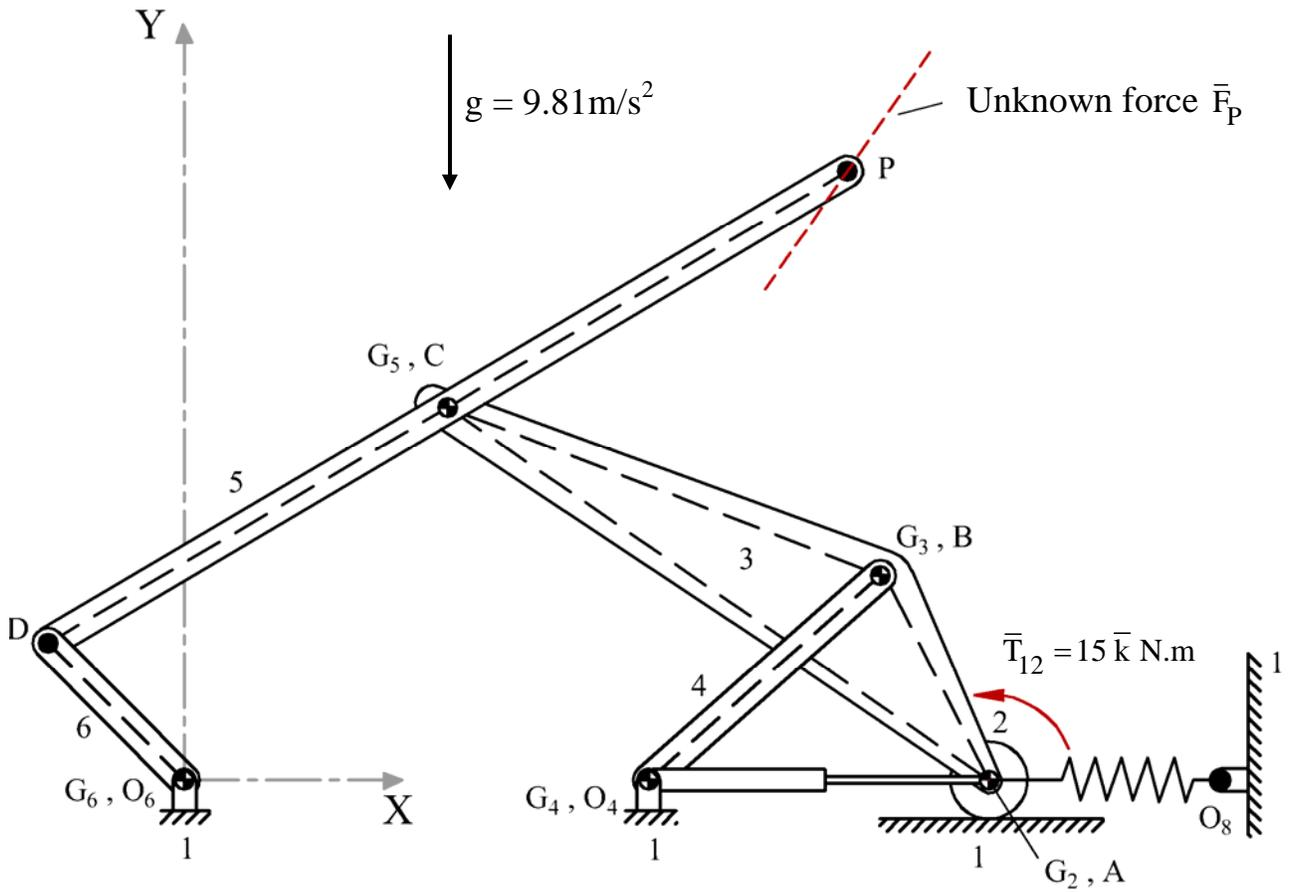
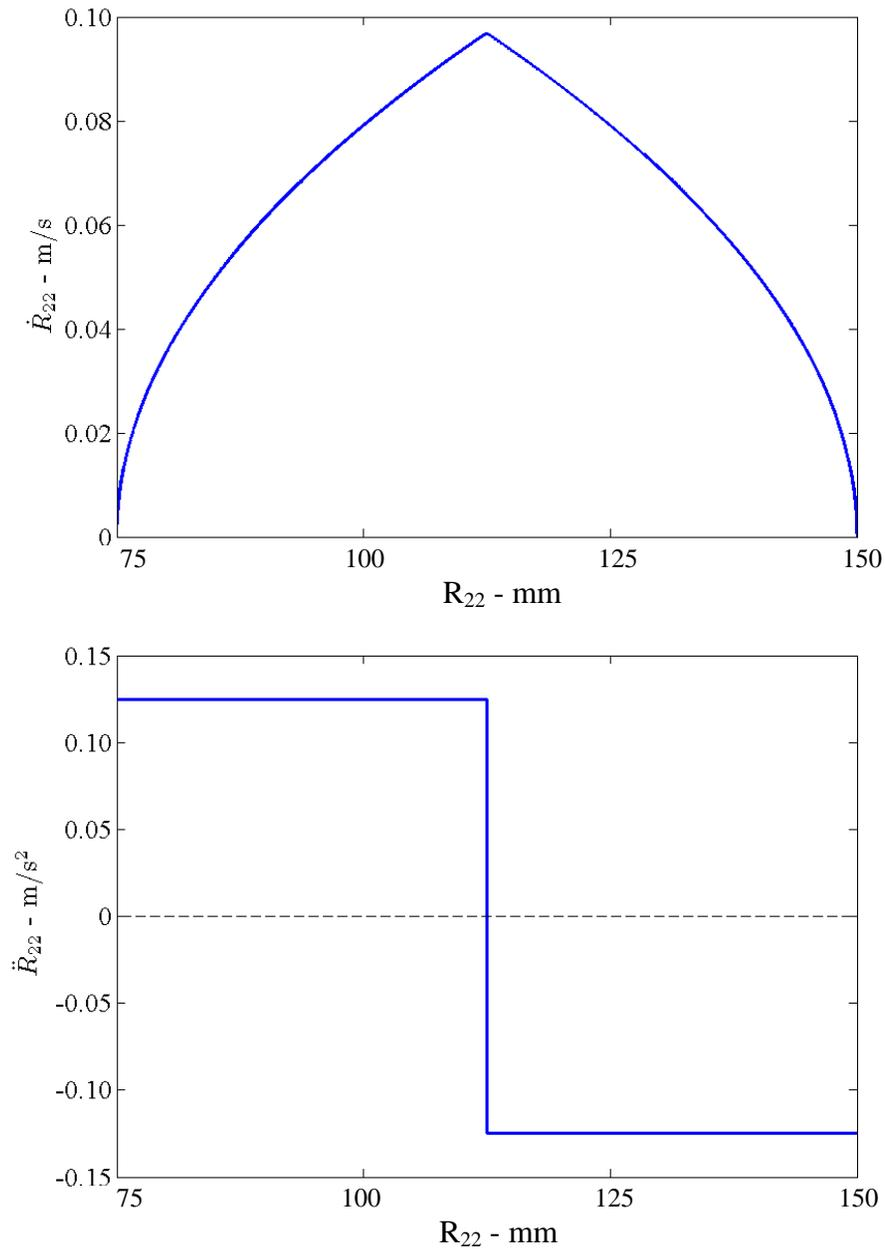

Figure 1. The Six-Bar Mechanism.
Figure 2. The velocity and acceleration of point A against the position of point A.
The wheel (link 2) of the mechanism shown in Figure 1 rolls, without slipping, on the ground. The wheel, which has a radius $\rho_2 = 12.5$ mm, is actuated by a hydraulic actuator connected between the ground pin O_4 and the shaft at point A. The actuator force is proportional to the velocity of point A where the constant of proportionality (that is, the viscous coefficient) is $C = 2000$ N.sec/m. The shaft at A moves from $O_4 A = R_{22} = 75$ mm to $O_4 A = R_{22} = 150$ mm and the velocity and acceleration of point A for this displacement are as shown in Figure 2. A linear spring, with free length $R_S = 110$ mm and spring rate $k = 500$ N/m, is connected between the ground pivot O_8 and the shaft at A. There is a constant torque $\bar{T}_{12} = 15 \bar{k}$ N.m acting on the shaft at A and a force \bar{F}_P (with unknown magnitude and direction) acting at the coupler point P. Given $O_6 O_4 = R_1 = 150$ mm, $O_4 O_8 = R_{11} = 185$ mm, $AB = R_3 = 75$ mm, $AC = R_{33} = 212.5$ mm, $BC = 150$ mm, $O_4 B = R_4 = 100$ mm, $DC = R_5 = 150$ mm, $O_6 D = R_6 = 62.5$ mm, and $CP = 150$ mm. The only significant friction in the mechanism is between the wheel and the ground where the coefficient of friction is $\mu = 0.25$.
- (i) Gravity is acting vertically downward (i.e., in the negative Y-direction) as shown in Figure 1.
- (i) Draw complete free body diagrams of the hydraulic actuator, the spring, the wheel, and links 3, 4, 5, and 6 for static equilibrium of the mechanism. Write the symbolic equations that are required to solve for all of the unknown variables. Note that the actuator force, required to hold the mechanism in static equilibrium, is proportional to the velocity of point A for each input position, see Figure 2. (Recall that the constant of proportionality is specified as $C = 2000 \text{ N}\cdot\text{sec}/\text{m}$). For all other purposes, the velocity and the acceleration of point A can be taken to be zero.